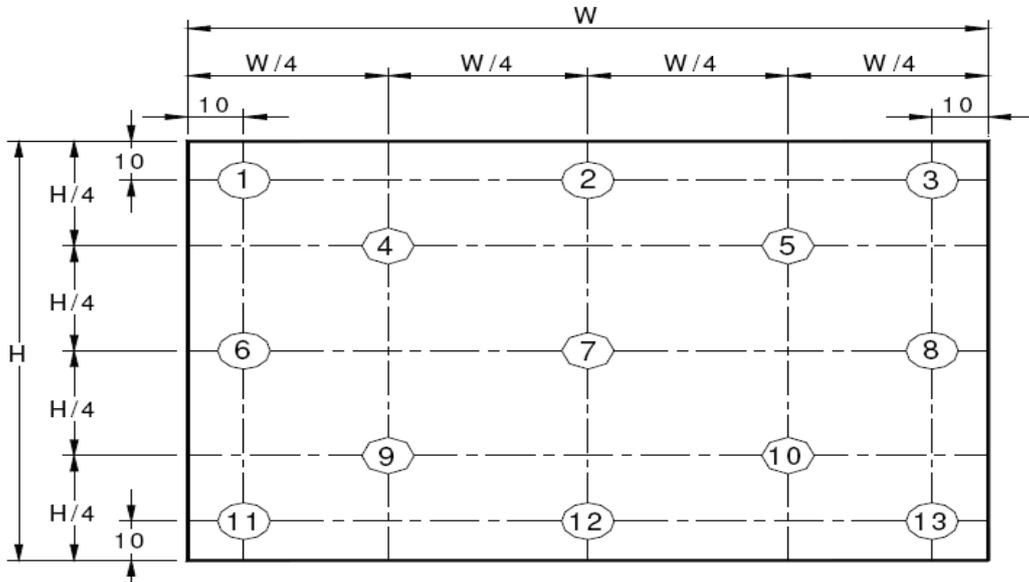

Figure 9. Uniformity Measurement Locations (13 points)
- The White luminance uniformity on LCD surface is then expressed as :  $\Delta Y = \text{Minimum Luminance of 5(or 13) points} / \text{Maximum Luminance of 5(or 13) points.}$ (see Figure 8 and Figure 9).
The White luminance uniformity on LCD surface is then expressed as :  $\Delta Y5$  = Minimum Luminance of five points / Maximum Luminance of five points (see Figure 8) ,  $\Delta Y13$  = Minimum Luminance of 13 points /Maximum Luminance of 13 points (see Figure 9).